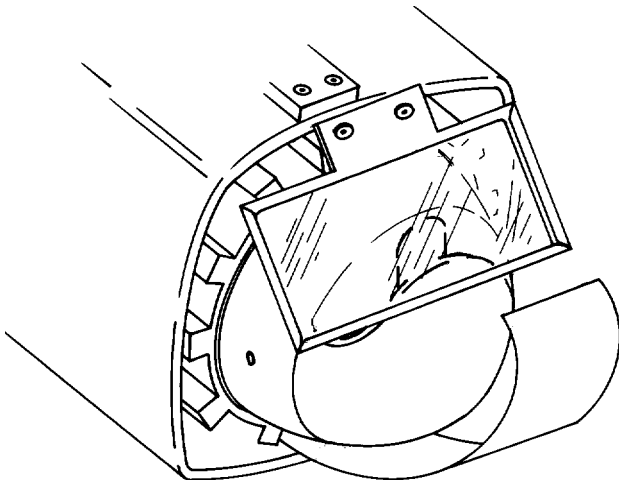

Figure 12. RG-11 Reflector
- d. RG-11. Used for heating solder termination sleeves and shrinking small-diameter tubing. Has a 1/2 inch wide aperture and has to be ordered separately (Figure 12).